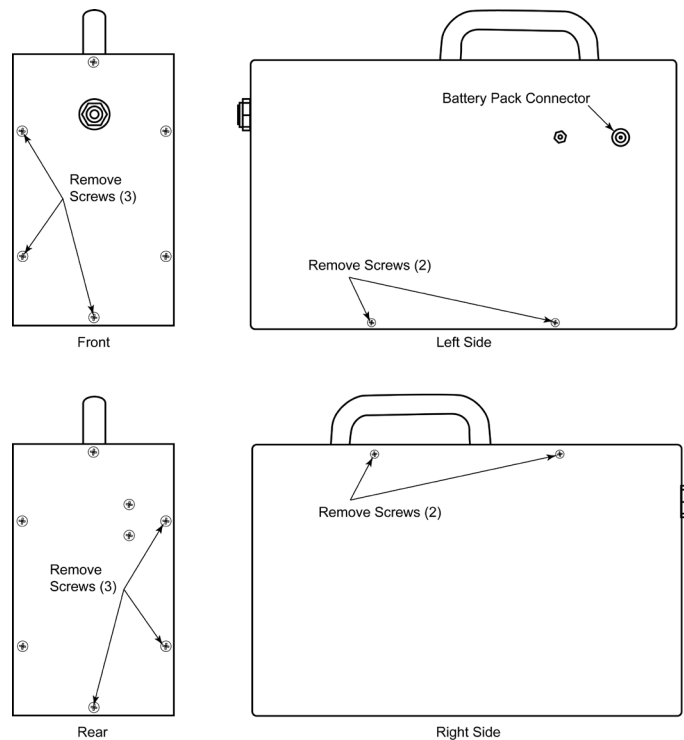

Figure 3. Screw Locations on Portable Monitor
2. Position monitor on its left side. Using a Phillips screwdriver, remove ten screws (as shown in Figure 3). Remove panel.
5. Remove the sample pump shown in Figure 3 by removing the two screws securing the part in place.